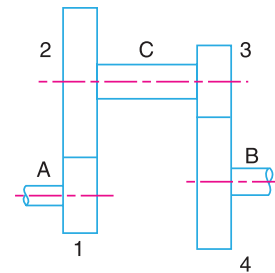

Fig. 13.32
3. In a reverted gear train, as shown in Fig. 13.32, two shafts A and B are in the same straight line and are geared together through an intermediate parallel shaft C . The gears connecting the shafts A and C have a module of 2 mm and those connecting the shafts C and B have a module of 4.5 mm. The speed of shaft A is to be about but greater than 12 times the speed of shaft B , and the ratio at each reduction is same. Find suitable number of teeth for gears. The number of teeth of each gear is to be a minimum but not less than 16. Also find the exact velocity ratio and the distance of shaft C from A and B . [Ans. 36, 126, 16, 56 ; 12.25 ; 162 mm]